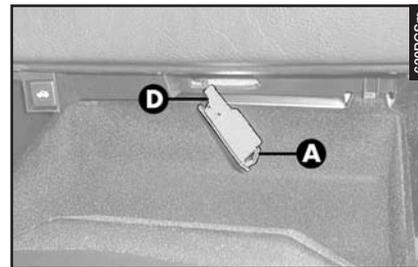

fig. 76
– Remove the light pushing with a screwdriver on the tab (**A-fig. 76**)
– Re-install the light inserting it in the correct position firstly on one side (**D-fig. 76**) and then pushing on the other until the tab clicks.